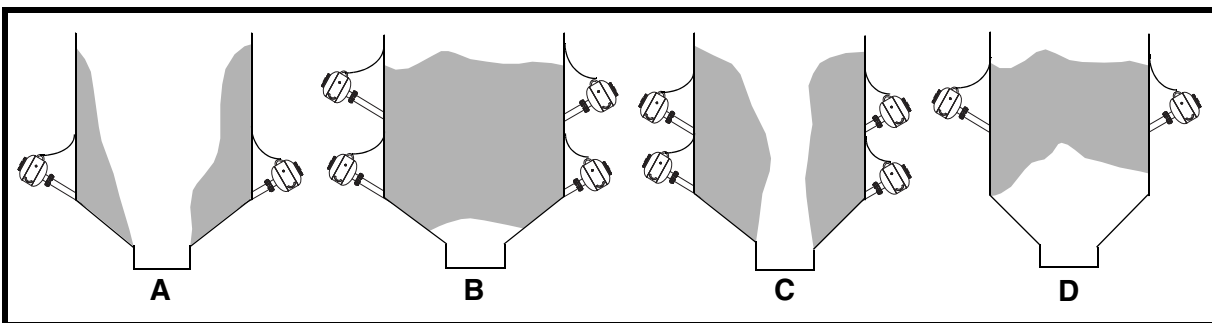

Figure 1. Restricted Material
The Martin[®] Typhoon Air Cannons are pneumatic, bulk material-moving systems that quickly release compressed air into a storage vessel to restore flow to material that is clinging (A), bridging (B), rat-holing (C), or arching (D) (see Figure 1). This manual provides instructions for installing cannons on steel structures only. For installations on other structures, call Martin Engineering or a representative.